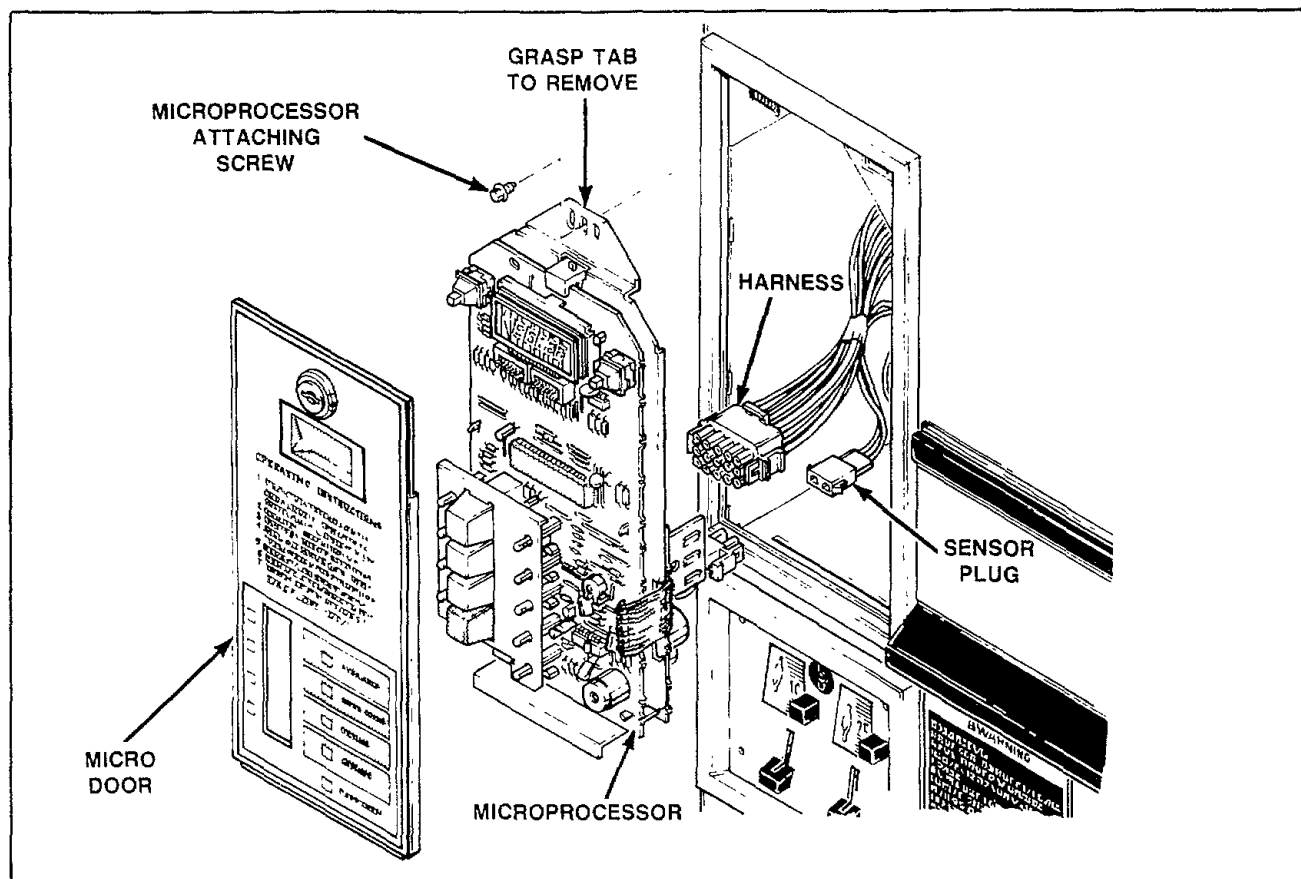

Figure 10
- Unlock and remove microprocessor door. *Figure 10.*
- Pull microprocessor out of housing and disconnect harness and sensor plugs. *Figure 10.*